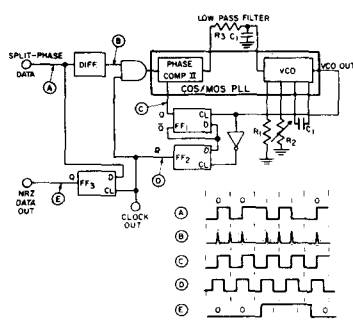

Fig. 14— Split-phase data synchronization and decoding.
Fig. 14 shows another application of COS/MOS PLL, split-phase data synchronization and decoding. A split-phase data signal consists of a series of binary digits that occur at a periodic rate, as shown in waveform A in Fig. 14. The weight of each bit, 0 or 1, is random, but the duration of each bit, and therefore the periodic bit-rate, is essentially constant. To detect and process the incoming signal, it is necessary to have a clock that is synchronous with the incoming data signal. Phase-lock techniques can be utilized to recover the clock and the data. Timing information is contained in the data transitions, which can be positive or negative in direction, but both polarities have the same meaning for timing recovery. The phase of the signal determines the binary bit weight. A binary 0 or 1 is a positive or negative transition, respectively, during a bit interval in split-phase data signals.
As shown in Fig. 14, the split-phase data-input (A) is first differentiated to mark the locations of the data transitions. The differentiated signal, (B), which is twice the bit rate, is gated into the COS/MOS PLL. Phase-comparator II in the PLL is used because of its insensitivity to duty cycle on both the signal and comparator inputs. The VCO output is fed